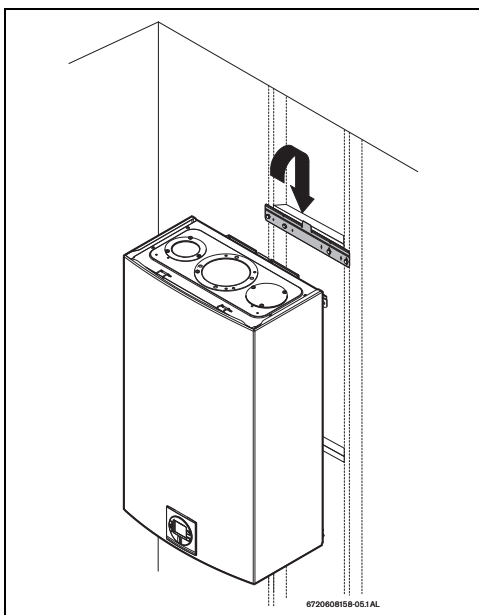

Fig. 29 Mounting the heater
- Hang the appliance on the bracket, see fig. 29, page 37.